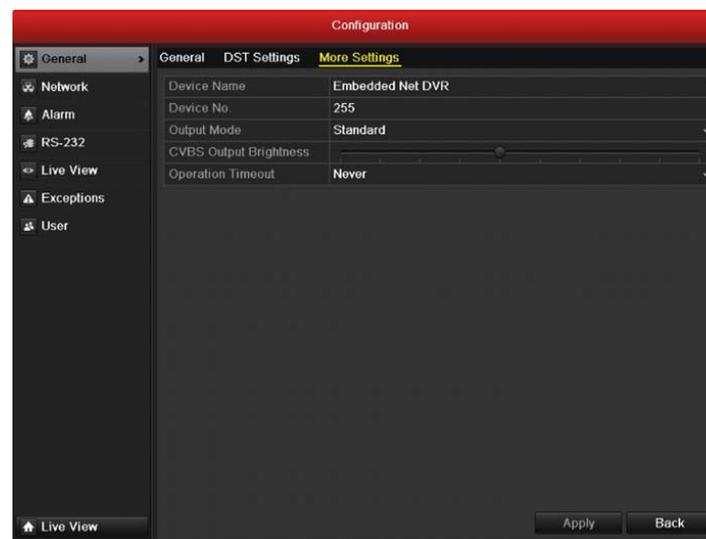

Figure 14.17 More Settings Interface
2. Click the **More Settings** tab to enter the More Settings interface, as shown in Figure 14.17.